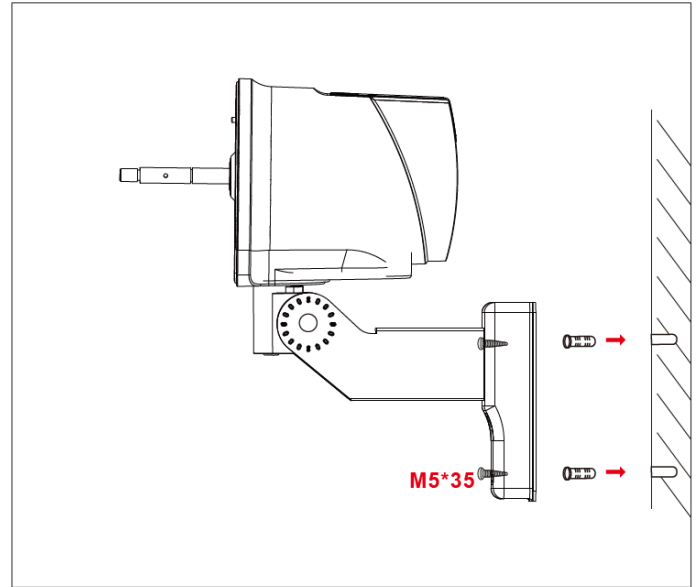

Figure 2
- c. Align the four holes in the motor frame with the four holes in the wall. Insert the expansion anchor into the four holes and insert the four M5*35 screws into the holes and tighten them firmly (Figure 2).